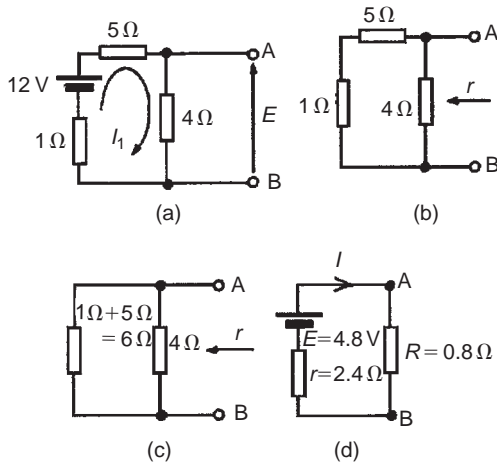

Figure 15.40
- (i) The 0.8Ω resistor is removed from the circuit as shown in Fig. 15.40(a).
- (iii) Removing the source of e.m.f. gives the circuit shown in Fig. 15.40(b). The equivalent circuit of Fig. 15.40(b) is shown in Fig. 15.40(c), from which, resistance
- (iv) The equivalent Thévenin's circuit is shown in Fig. 15.40(d), from which, current